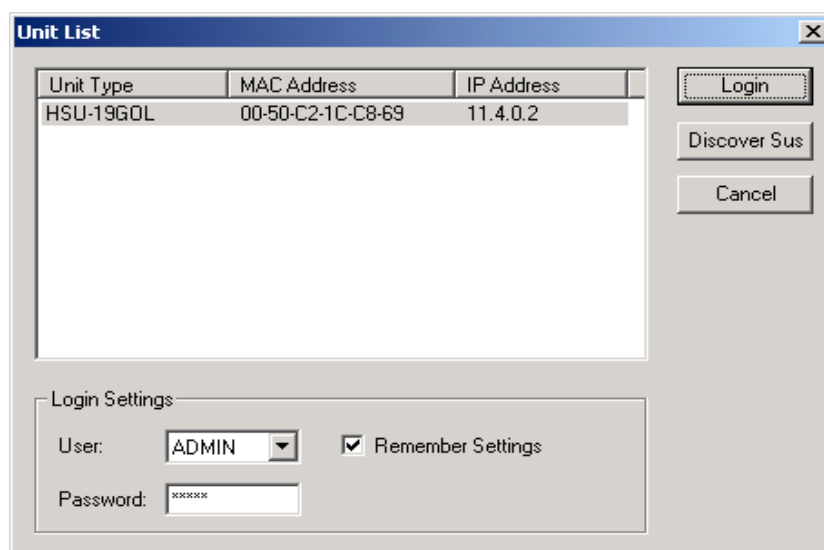

Figure 10-3: Discover Window
- If the IP address of the unit is unknown, press the icon “S” to start a new session. This command discovers (with a broadcast command) the units on the network. The application waits (discover time) for replies and display a list of the units replied (see Figure 10-3).